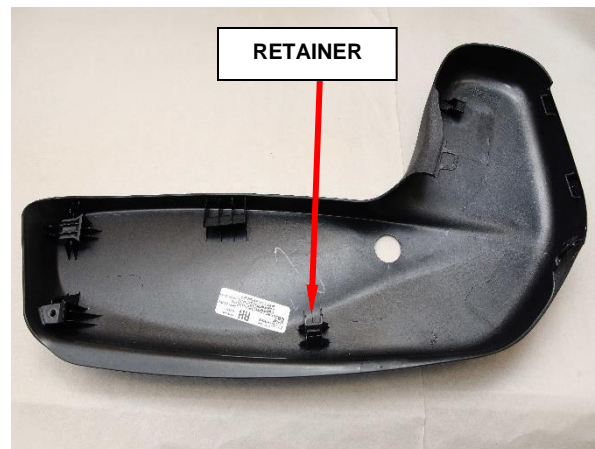

Figure 13 – Side Shield
6. Remove the side shields by releasing the retainer by pushing the shield down then forward to disengage the shield from the seat cushion frame (Figure 13).
8. Install the side shields by pushing the shield rearward to engage the shield to the seat cushion frame then push on the shield to secure the retainer (Figure 13).